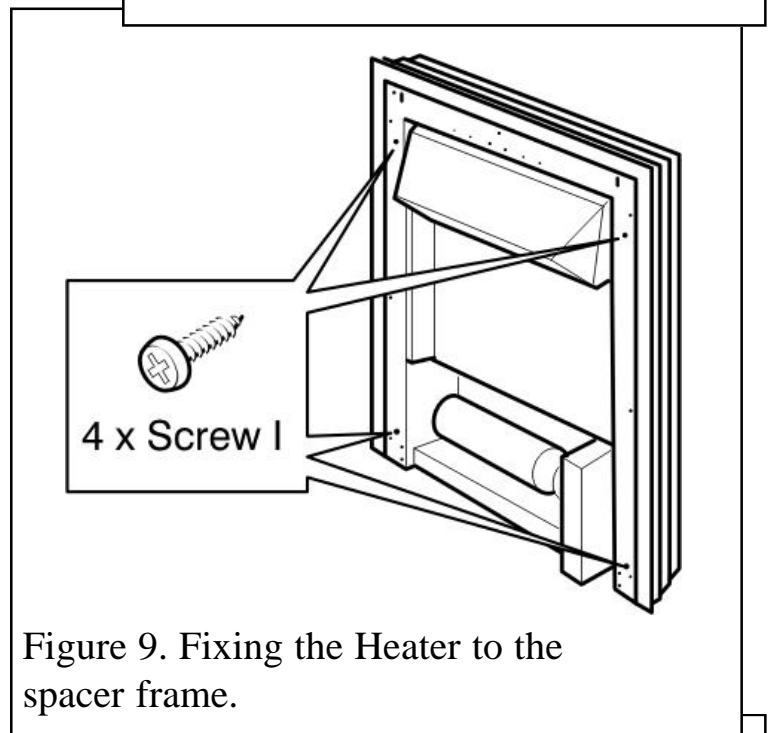

Figure 9. Fixing the Heater to the spacer frame.
8. Place the heater centrally against the spacer frame. The heater has holes in its left side, right side and top. Secure the heater to the spacer frame through the four hole positions as in figure 9 using four 'I' screws (See figure 15).